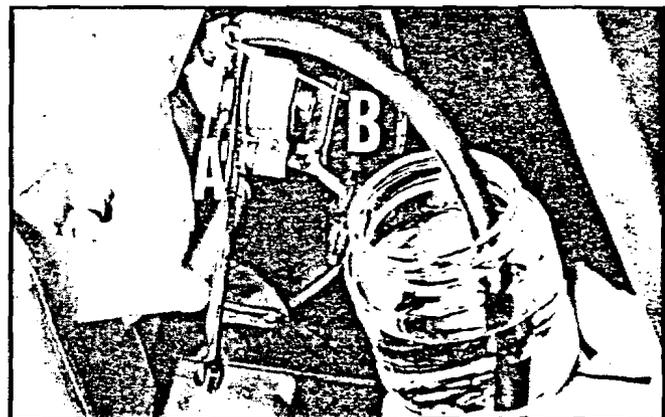

Figure 3
2. Slip a rubber tube over ball of bleeder valve (A) (figure 3) and direct flow of fluid into a container. (DO NOT RE-USE FLUID.)
3. Squeeze brake lever-a full stroke, unscrew bleeder valve (B) (figure 3) 3/4 of a turn to release air. Close bleeder valve, then release brake lever. Repeat this procedure until fluid flows from bleeder valve in a solid stream that is free of air bubbles. Refill reservoir after bleeding operation.